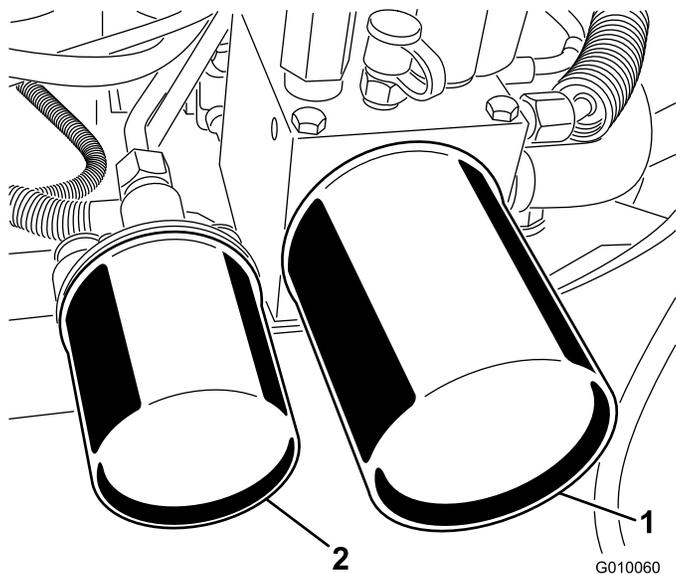

Figure 60
- Place a drain pan under the filters, remove the old filters, and wipe the filter adapter gasket surface clean (Figure 60).